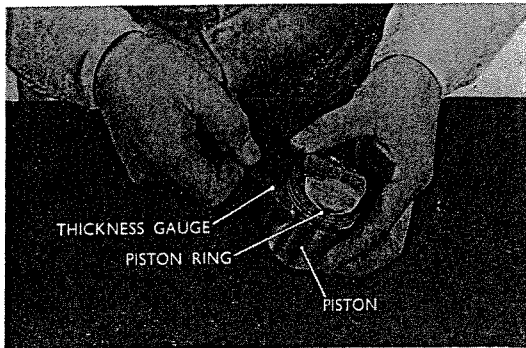

Fig. 3.98 Measuring ring groove when a new piston ring is fitted.
3. Measurement of the ring groove clearance when a new piston ring is fitted. (Refer to Fig. 3.98)